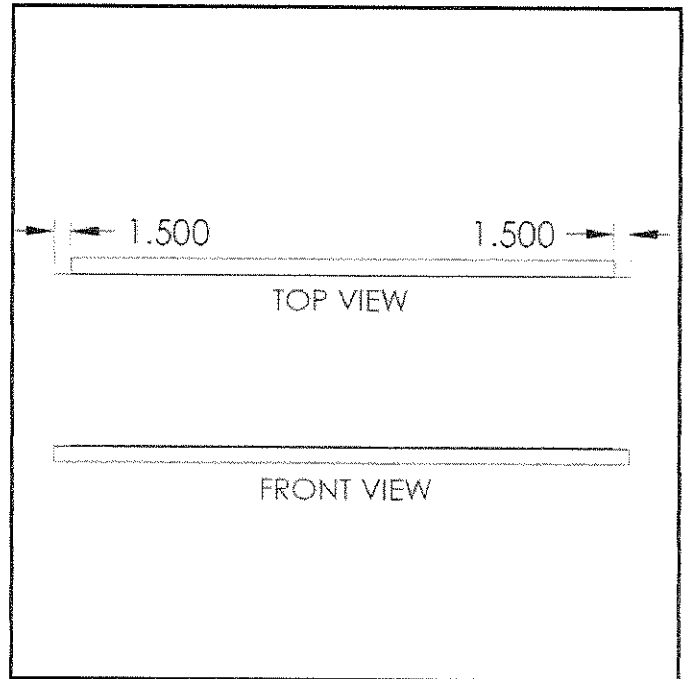

Figure 12
5. Cabinets should be installed with faces flush with wall. Sufficient aesthetic angle trim is provided with your cabinet to frame out your installation. To install trim, cut horizontal piece to length, then notch both ends (see Figure 12). Then cut vertical pieces to length. Clean walls around cabinets to ensure adhesion and then adhere trim with two-sided tape to the wall (see Figure 13). Note: Tape is provided on trim.